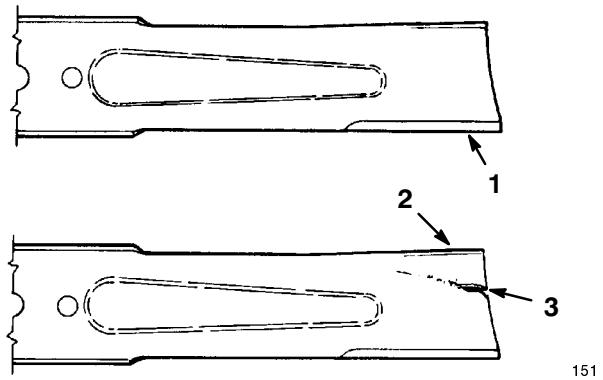

Figure 32
2. Inspect the cutting edges (Fig. 32). If the edges are not sharp or have nicks, remove the blade(s) and sharpen them; refer to Sharpening the Blade(s), page 36.
3. Inspect the blade(s), especially the curved area (Fig. 32). If you notice any damage, wear, or a slot forming in this area (Fig. 32), immediately install a new blade.